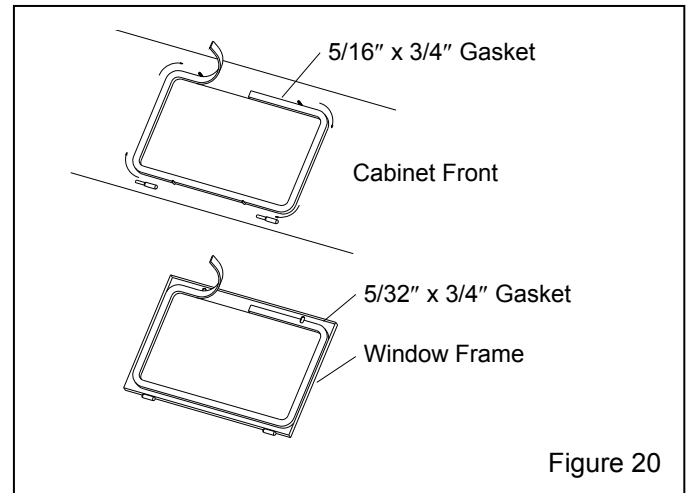

Figure 20
7.5 Window Gasket Replacement, Figure 20
7.5.4 Peel a short section of adhesive backing from the 5/16"-thick strip gasket, and adhere the gasket to the center of the top edge of the window opening, as shown in Figure 20. Peel additional backing as needed, and work the strip around the radius of each corner, pressing it firmly to bond. Trim the gasket to fit and compress the ends to seal.